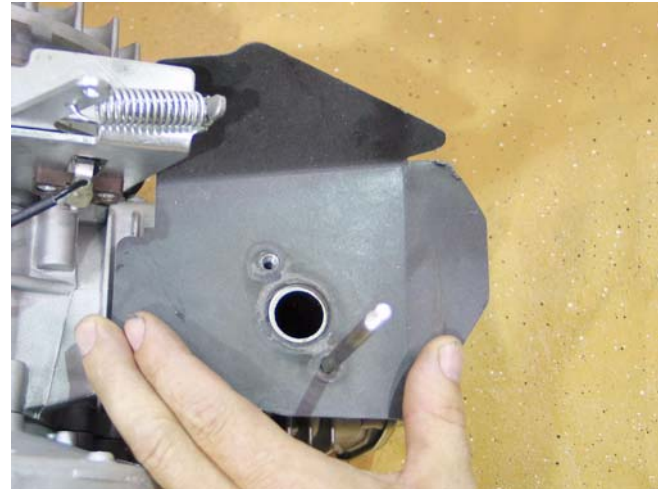

Figure 9.3
- 9.3. The muffler gasket extends well beyond the port, to act as a heat shield and cooling air guide between the muffler and the cylinder. See Figure 9.3.